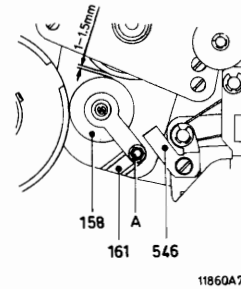

Fig. III-8
- The distance between idler wheel 158 and flywheel 224 must be $1 \pm 0,5$ mm (Fig. III-8).